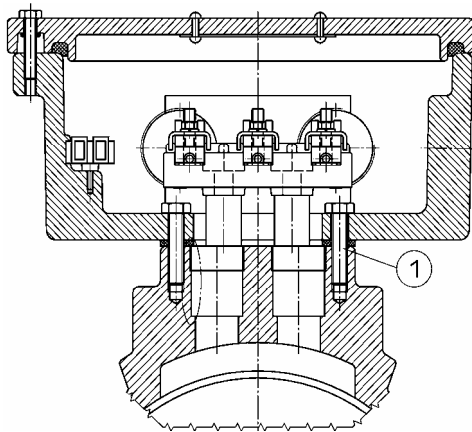
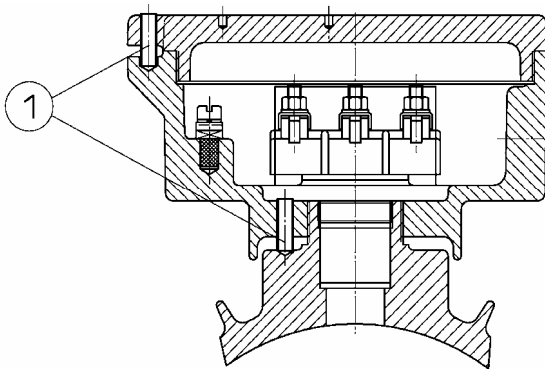

Figure 5: Terminal box with fastening screw ①
Figure 6: Terminal box with grub screw ①
Open the box by loosening the screws on the cover (Fig. 5) or, in the case of models with grub screw (Fig. 6), by turning the grub screw counter-clockwise and then loosening the tapped cover.
- the four fastening screws (➔ Fig. 5) or
- the anti-rotation pins by means of the grub screw (➔ Fig. 6).
Terminal boxes fastened as per Fig. 6 are to be turned counter-clockwise by a maximum of one turn away from the thread end stop. Screwed-on covers must be duly secured.